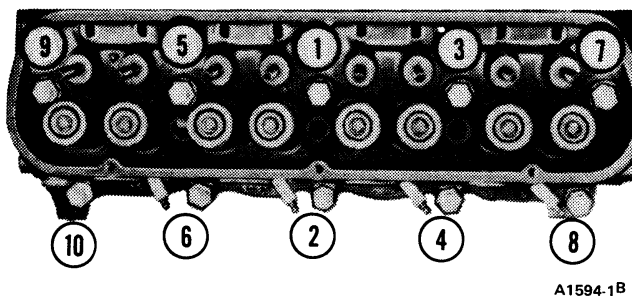

FIG. 24 Cylinder Head Bolt Tightening Sequence
3. The cylinder head bolts are tightened in three progressive steps. Tighten all the bolts in sequence (Fig. 24) to specifications. When cylinder head bolts have been tightened following this procedure, it is not necessary to re-tighten the bolts after extended operation. However, the bolts may be checked and re-tightened if desired.